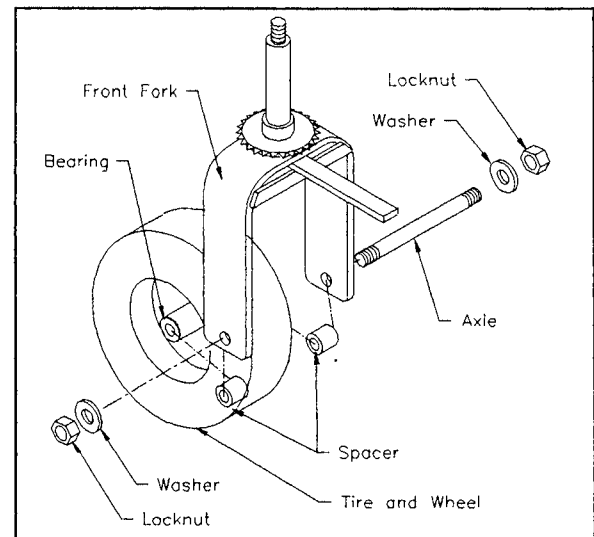

Figure 3-6
- Remove one locknut from the axle (see Figure 3-6).